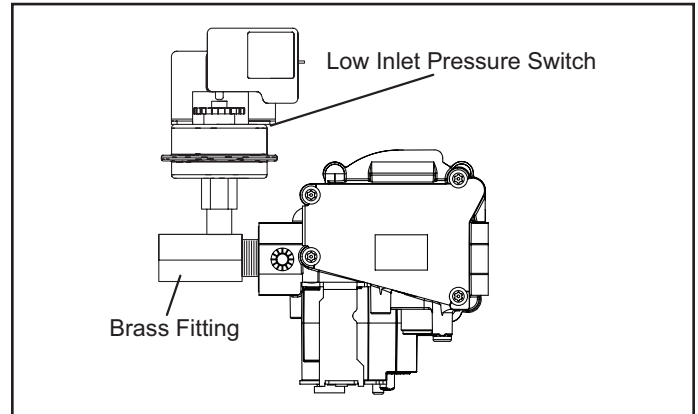

Figure 1. Gas Valve with Low Inlet Pressure Switch Location
8. Thread provided brass fitting to gas valve inlet until hand tight. Using properly sized wrench, tighten fitting 2 to 3 full turns being careful to position the side port to allow clearance for the pressure switch and harness. See Figure 1.
NOTE: Some installations may require the pressure switch and fitting assembly to be positioned differently than shown in Figure 1.